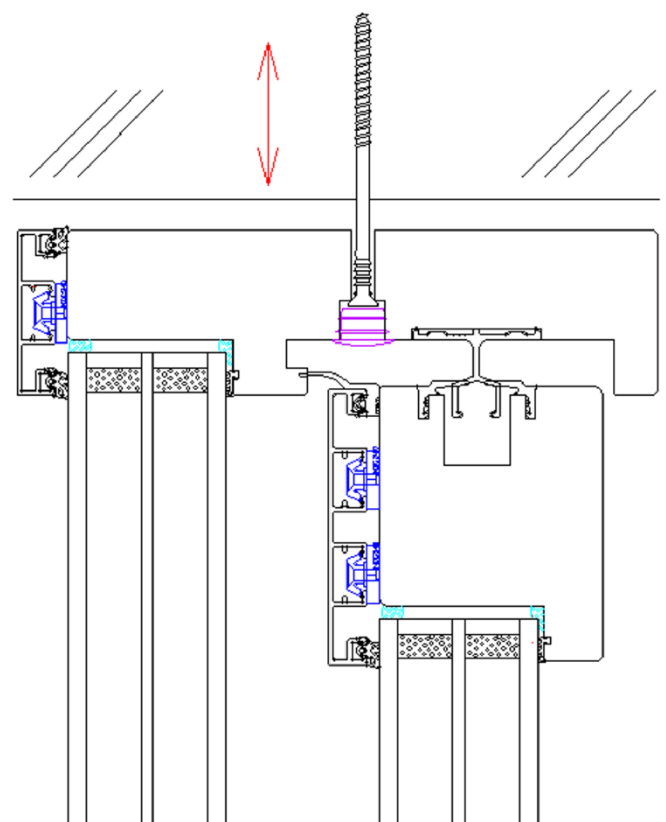

Figure 6. Fixing the top part of the casing
9. If the total width of the glass sliding door is over 2.5 metres, the top part of the casing must also be fixed using the pre-drilled holes (**Figure 6**). We recommend using installation wedges between the casing and the wall during the fixing step to ensure that the top part of the casing does not bend.